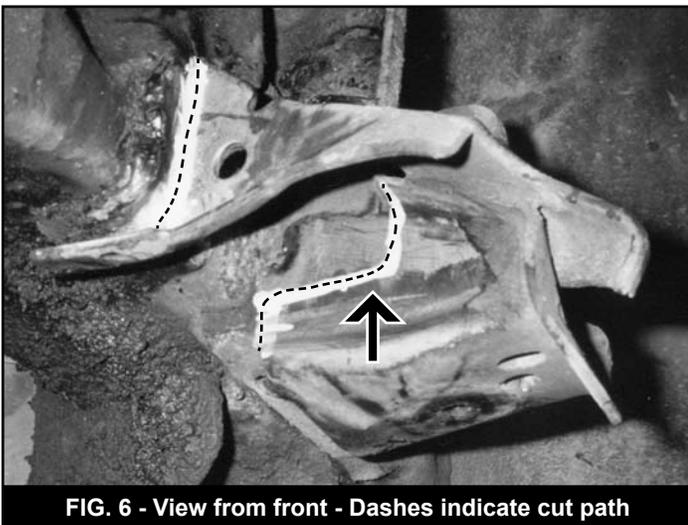

FIG. 6 - View from front - Dashes indicate cut path
19. On the driver's rear upper control arm pocket, cut the extended stop support wing off flush with frame. On the front surface of the pocket itself, make an outward 2" horizontal cut about 1/2" below the frame. Cut vertically through the bracket to meet the horizontal cut. (Fig. 6)